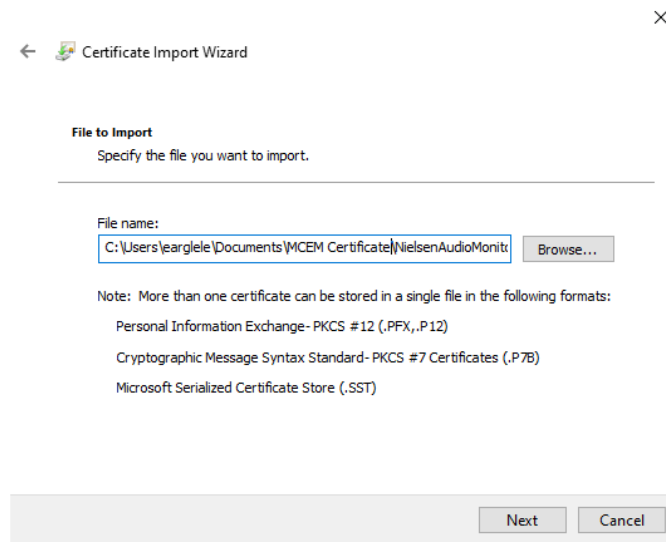

Figure 75: Select Certificate to Import
5. Browse to **NielsenAudioMonitorRootCA.cer**, which you saved in the previous procedure and click **Open** (Figure 75).